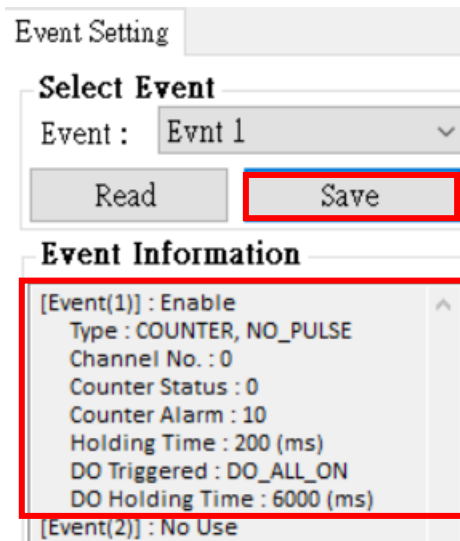

Figure 6.10.30
K. After setting, select "SAVE" to save as shown in Figure 6.10.30. Complete the list below and the setting will be displayed